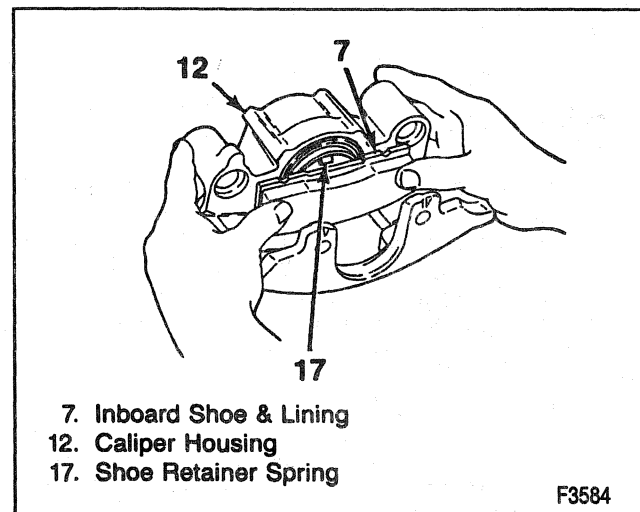
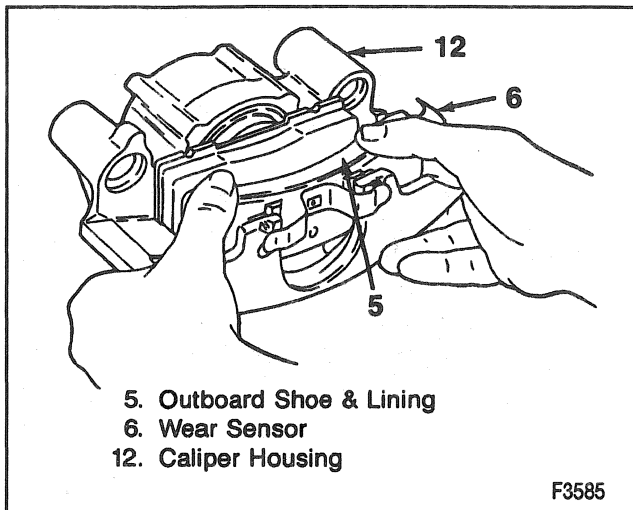

Figure 10—Installing the Inboard Lining
Figure 11—Installing the Outboard Lining
Install or Connect (Figures 10 through 12)
1. Lubricate bushings (3) and mounting bolt seals (4) with Delco Silicone Lube GM P/N 18010909 or equivalent.
2. New bushings (3) and bolt seals (4) (if used).
3. New bolt boots (1).
4. Inboard lining (7).
- Snap retainer spring (17) into piston (9) (Figure 10).
- The pad retainer spring (17) is already staked to inboard shoe.
5. Outboard lining (5) with wear indicator (6) at leading edge of pad during forward wheel rotation (Figure 11).
6. Caliper (12). Refer to "Caliper" in this section.